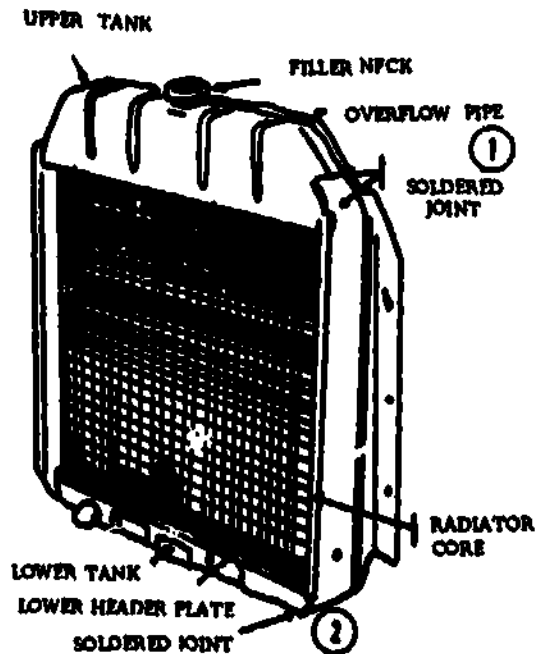
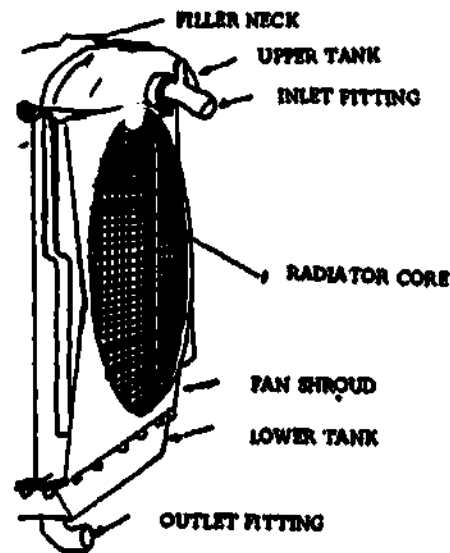

Fig 2-70. Location of common radiator leaks (front view).
Fig 2-71. Location of common radiator leaks (rear view).
g. Radiator leaks. The radiator should be inspected for broken or loose solder joints located on both sides of the radiator (1 and 2, fig 2-70). Although the core can spring a leak anywhere, leaks are more apt to appear where the upper and lower tanks are connected to the radiator core. Also leaks are likely where the inlet and outlet (fig 2-71) fittings are joined to the tank. Small leaks are difficult to see because the coolant evaporates quickly, but if you find discoloration and corrosion, this will indicate there is a leak.